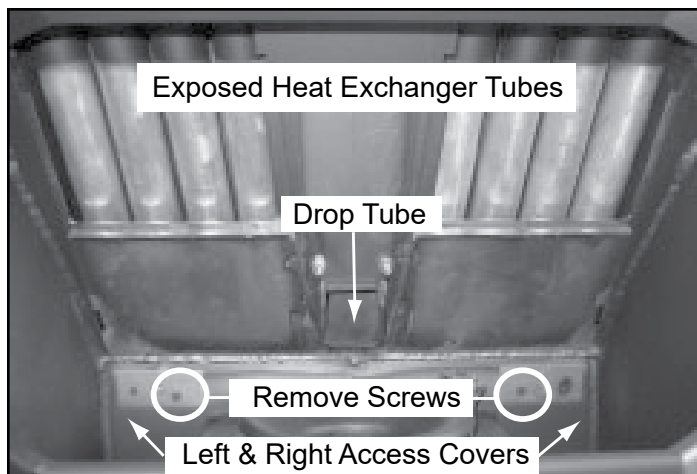

Figure 22.1 - Baffles Removed
- Use a Shop Vac to vacuum any fly ash and soot from the heat exchanger tubes and firebox area (**Figure 22.1**).
- There are 2 exhaust exits at the back of the firebox on the left and right side (**Figure 22.1**).